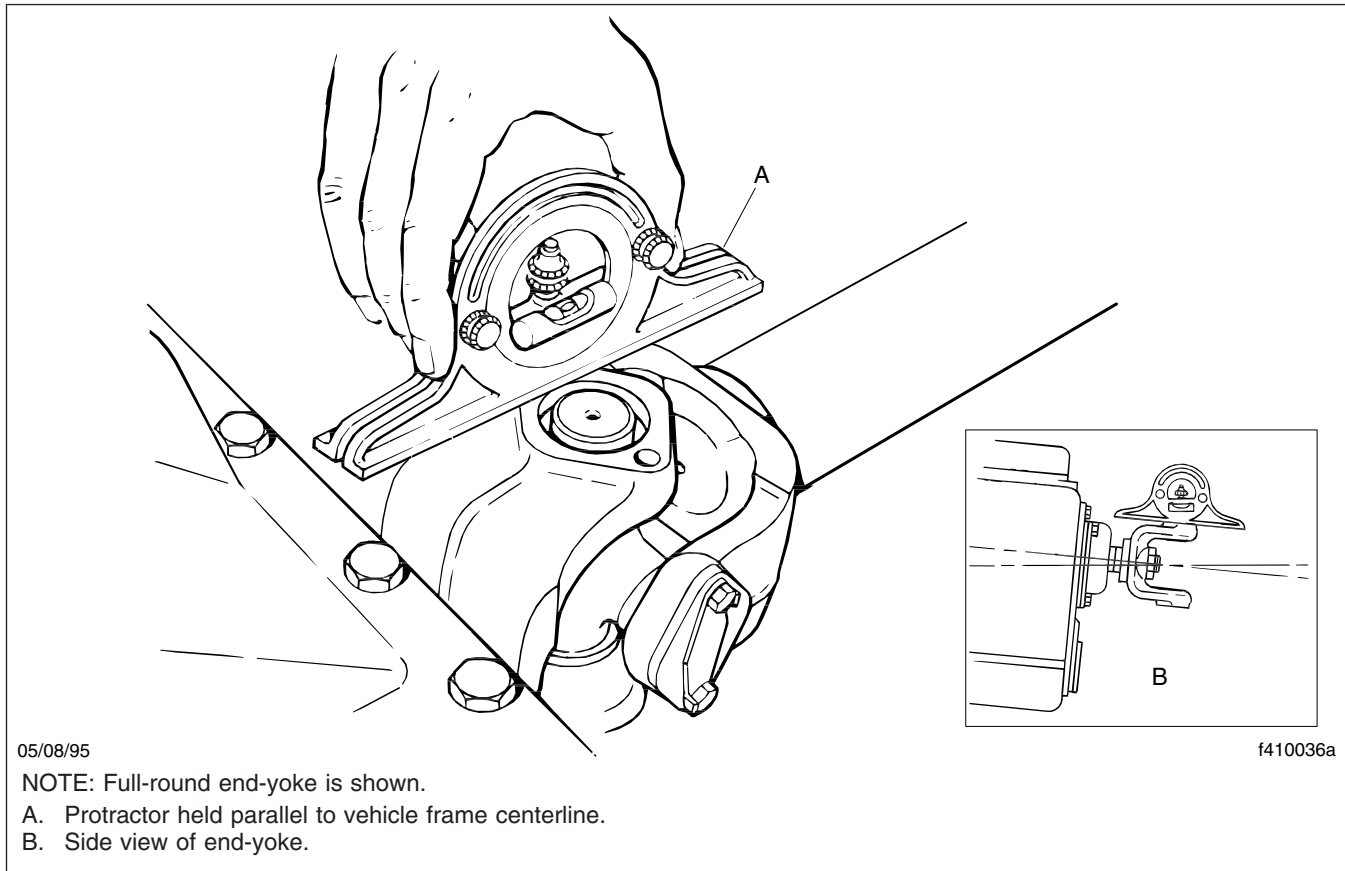

Fig. 6, Measuring Pinion Angles
7. Without changing the position of the end-yoke, turn the protractor until it is parallel to the frame centerline. See Fig. 6. Adjust the calibrated scale so the bubble is exactly between the two marks on the level vial. Record the calibrated scale reading opposite the "0" mark. Correct this value for any previously recorded off-level inclination.